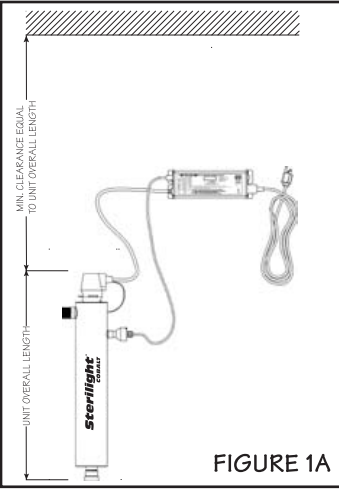

FIGURE 1A
2. Select a suitable location for the disinfection system and its related components. As it is recommended to install a ground fault protected circuit (GFCI), make sure that this is taken into consideration prior to any installation. The system can either be installed vertically (inlet port at the bottom) (Figure 1A), or horizontally (Figure 1B), however the vertical installation is the most preferred method. When selecting a mounting location, you must also leave enough space to allow for the removal of the UV lamp and/or quartz sleeve (typically leave a space equal to the size of the reactor chamber itself). (Note: *Installation drawings show Cobalt “PLUS” system with UV sensor for representation purpose only*)